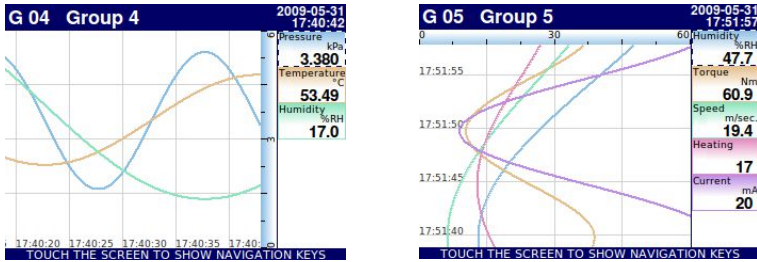

Fig. 6.8. Examples of **Horizontal** (for 3 channels) and **Vertical Charts** (for 5 channels)
During normal operation the **MultiCon CMC-99/141** displays data in a form selected by user, at any time it is possible to switch a presentation mode and group or show the configuration menu. All the details of the user interface are designed to make the use of the device easy and intuitive. To change a display mode, group or to enter the menu, touch the screen of the **MultiCon CMC-99/141** and press an appropriate button in the **Navigation bar** (see **Fig. 6.8**). By touching the screen twice will appear the **Home-Back** menu available only in **SCADALite** display mode (see **Chapter 7.14.4. Groups – SCADALite**).
- as horizontal charts Fig. 6.8
- as vertical charts Fig. 6.8